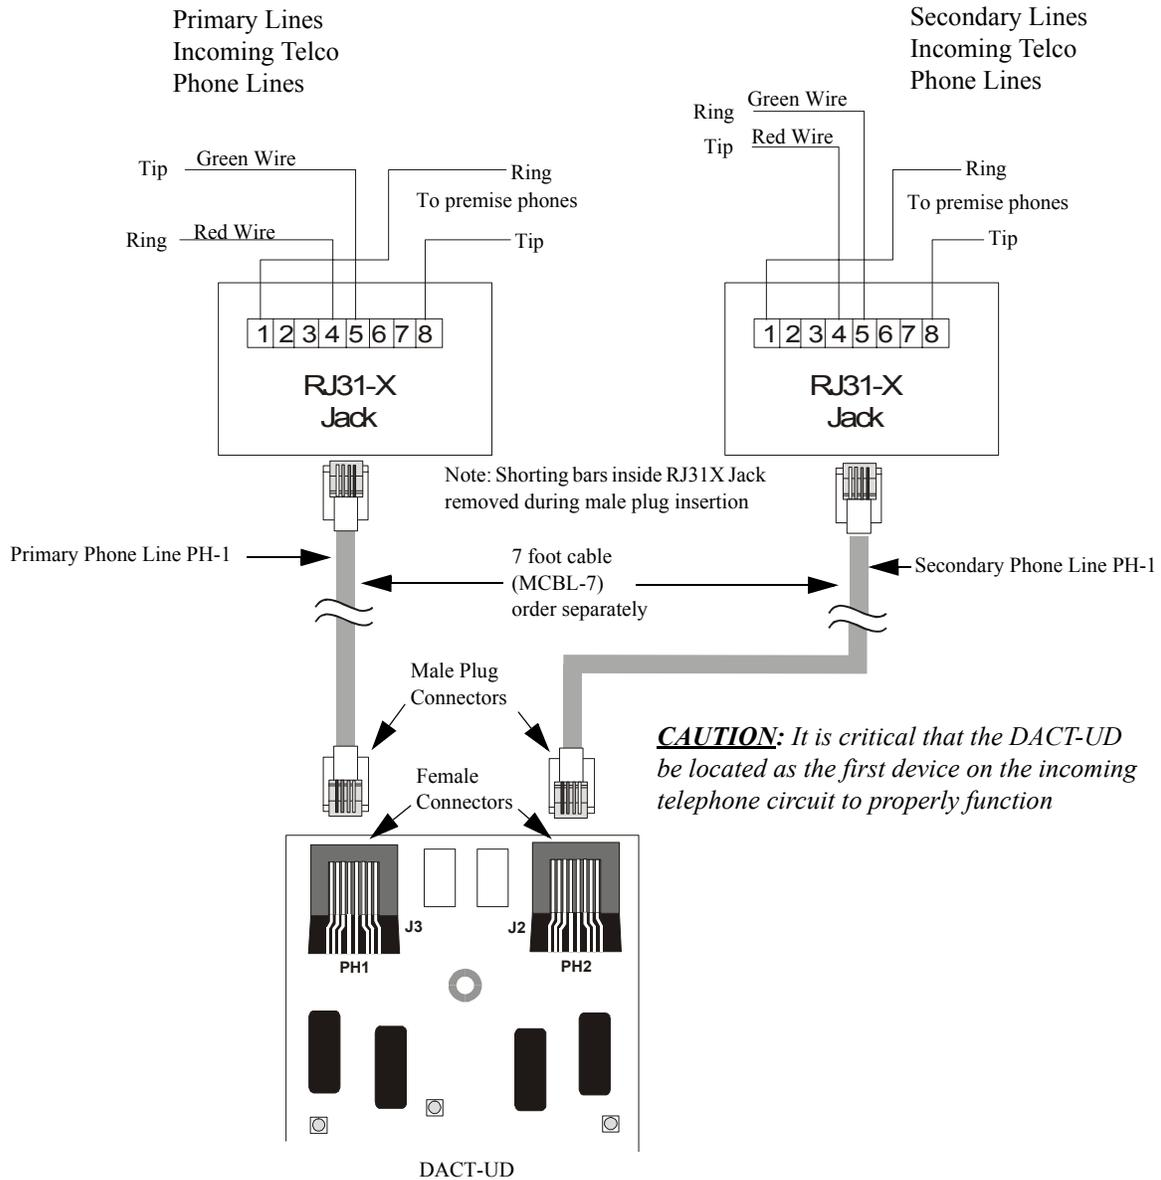

Figure 2.14 Wiring Phone Jacks
- Refer to the Telephone Requirement and Warnings section of the DACT-UD Installation and Programming Manual Document #51889, before proceeding with this step. Connect the premises primary and secondary phone lines to the DACT as illustrated in Figure 2.14 and test the system for correct operation